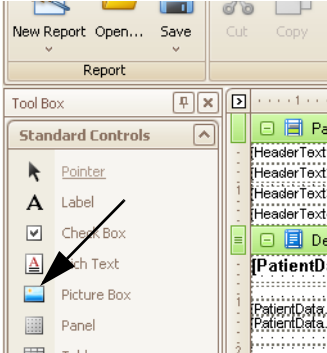

Fig. 10-4 Picture Box button
- Select the **Picture Box** (Fig. 10-4).